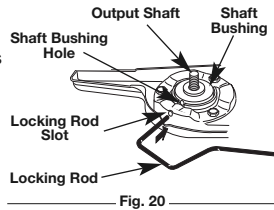

Fig. 20
- Align the shaft bushing hole with the locking rod slot and insert the locking rod into the bushing hole (Fig. 20).